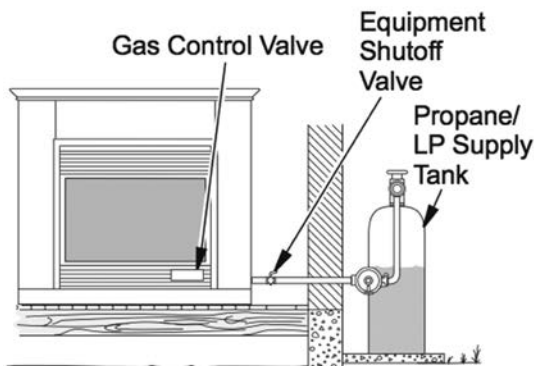

Fig. 13 - Checking Gas Joints (Propane/LP Only)
3. Check all joints from gas meter to equipment shutoff valve (See Fig.13). Apply mixture of liquid soap and water to gas joints. If bubbles form, there may be a leak.
4. Check all joints from equipment shutoff valve to control valve (See Fig. 13). Apply mixture of liquid soap and water to gas joint. If bubbles form, there may be a leak.